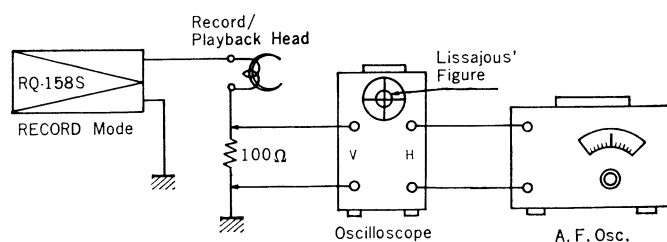

Fig. 3
Measuring Circuit: Refer to Fig. 3.
1. As shown in Fig. 3, insert a 100 Ω resistor to ground lead wire of Record Head and connect vertical axis of Oscilloscope across resistor; connect horizontal axis of Oscilloscope to output terminal of AF Oscillator.